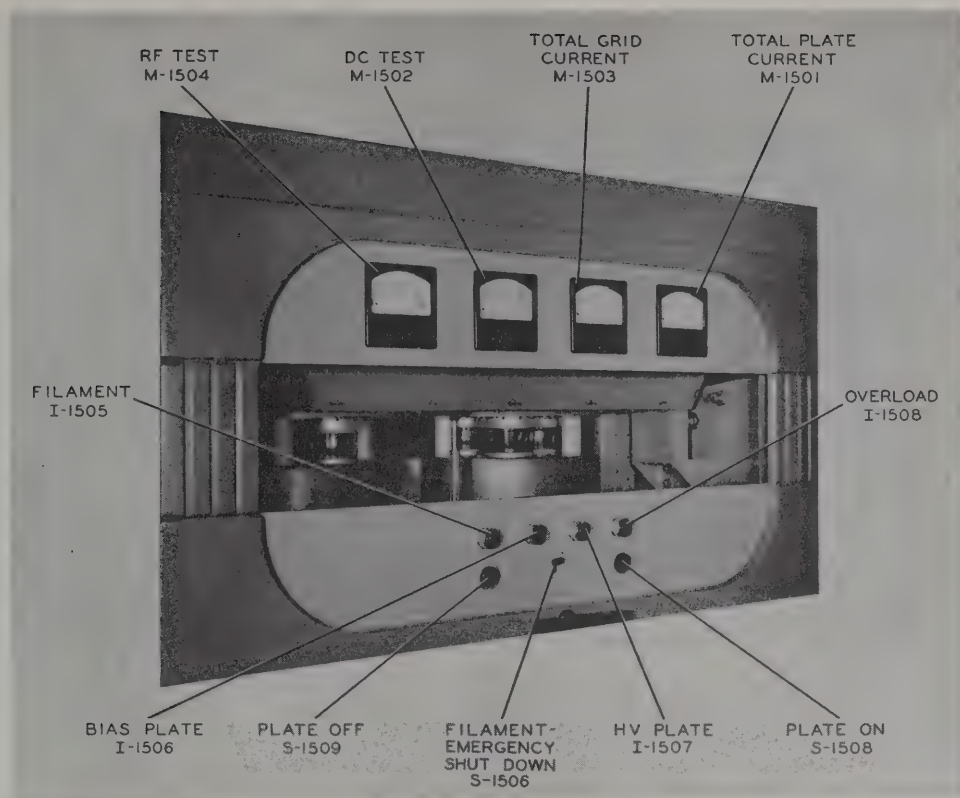

Figure 34. Upper Control Panel, R-F Amplifier AM-738/FRT-22 Controls.
*g. R-F Amplifier AM-738/FRT-22 (figs. 34, 35, and 36). (contd)*